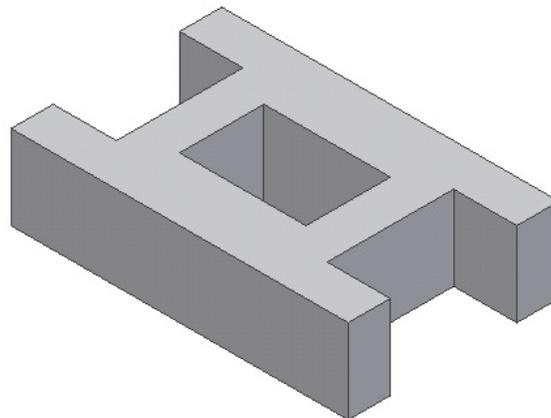

Figure 4-83 The model created on extruding the profile
5. Choose **OK** from the dialog box to create the model and exit the **Extrude** tool. Alternatively, choose **OK** from the mini toolbar. The extruded model is shown in Figure 4-83.